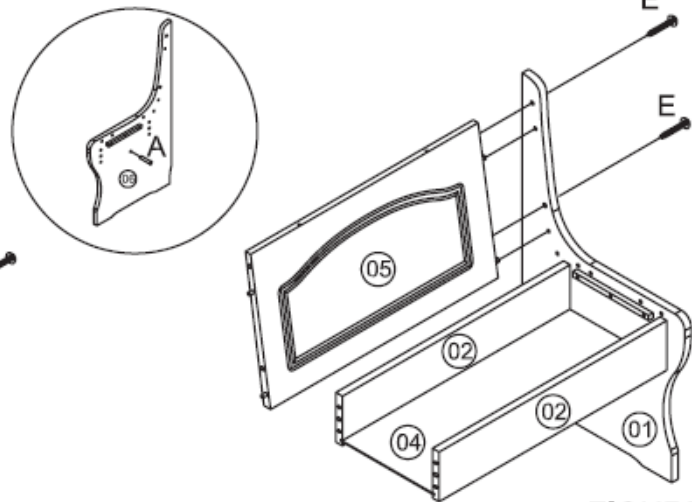
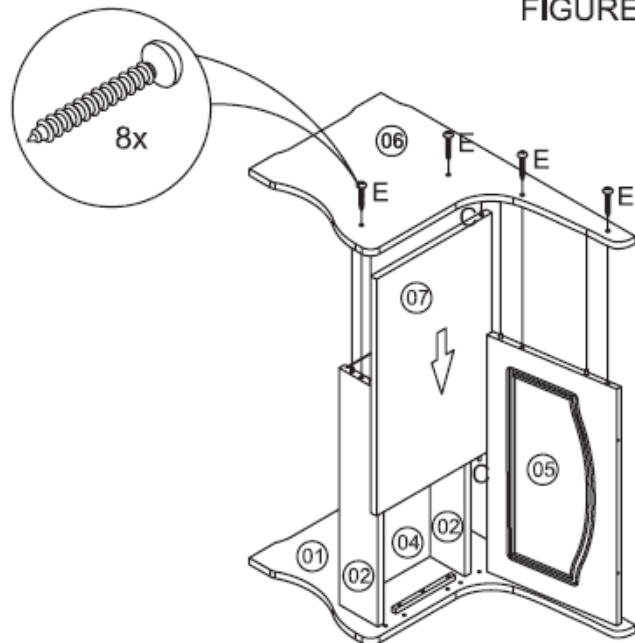

FIGURE 2.3
FIGURE 2.4
- e) Refer to Figure 2.3 - Attach Single Bench Backrest (5) to a Middle Leg (1) via wood dowels on (5).
- f) Use Screw (E) to fasten (5) to (1).
- g) With assistance, place the assembly on its side as shown in Figure 2.4.
- h) Refer to Figure 2.4 - Fit Single Bench Seat Cover (7) between (5 & 2) and insert Plastic Pin (C) on (7) into designated hole on (1). Attach
- i) Left Outside Leg (6) to (2, 5, 7 & 4). via wood dowels on (2 & 5). Check that Pin (C) on (7) fits into the designated hole on (6), and (4) sits on wood dowel on (6).
- j) Use Screw (E) to fasten (6) to (2 & 5).